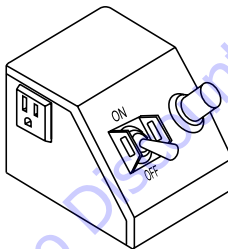

**Figure 16. Power ON/OFF Switch (ON)**
2. Turn the power ON/OFF switch (Figure 16) to the ON position with the blade away from the material to be cut, the cutting blade should begin to rotate. Before cutting remember to follow all safety rules referenced in this manual.